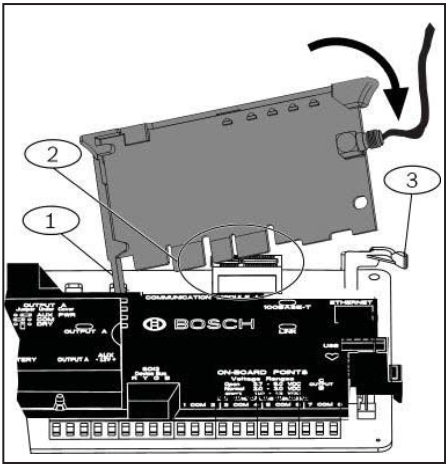

Figure 2.2: Module installation
1. With the module facing the control panel as shown in *Figure 2.2*, insert the support leg into the support hole labeled X.